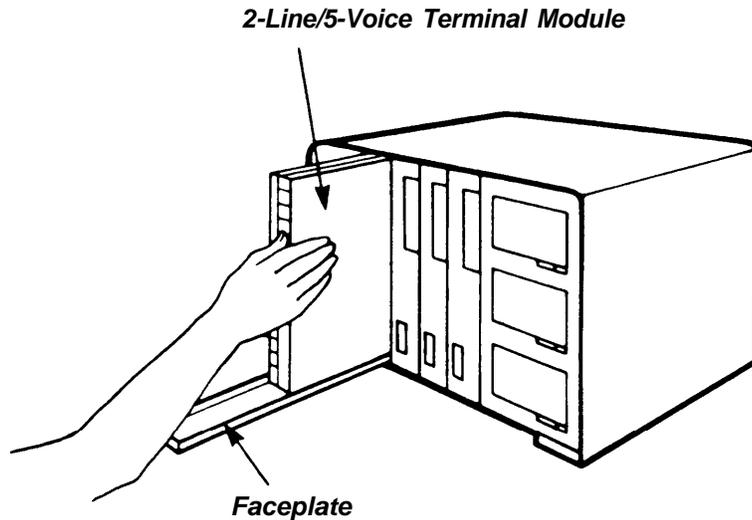

Figure 5.
- Slide the 2-Line/5-Voice Terminal Module slowly into the slot until it is properly seated (Figure 5).